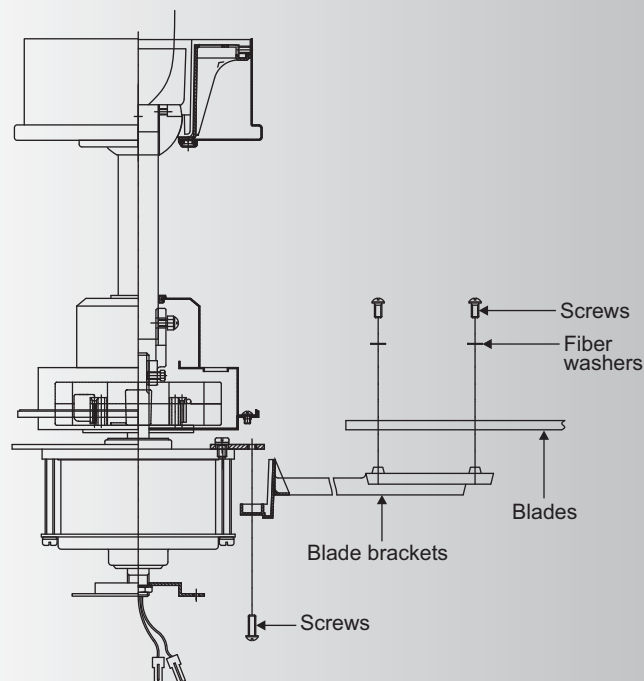

Fig. 14
Step 1. Attach a blade to a blade bracket using the screws and rubber washers provided. (Fig. 14)
Step 2. Attach each blade assembly to the motor using the "Pre-Installed" mounting screws in the blade bracket. (Fig 14)